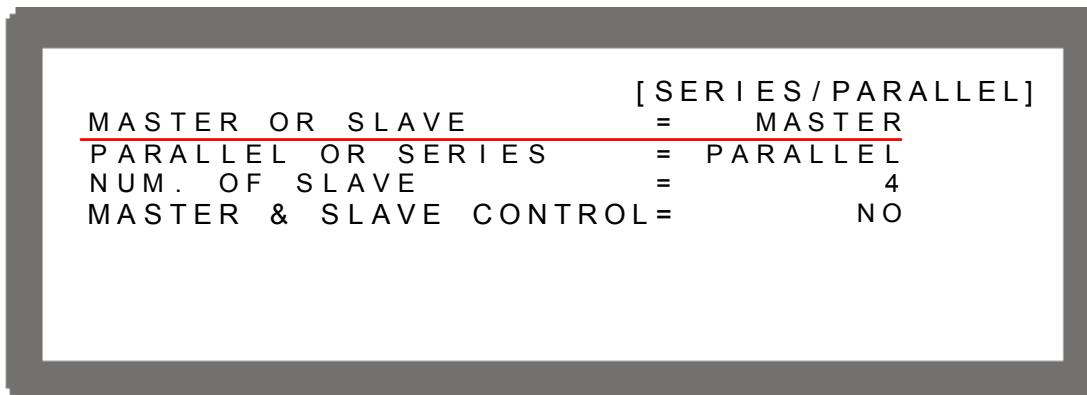

Figure 3-38
2. Use the numeric (**0**) key or the “Rotary” () knob to set MASTER as shown in Figure 3-38.